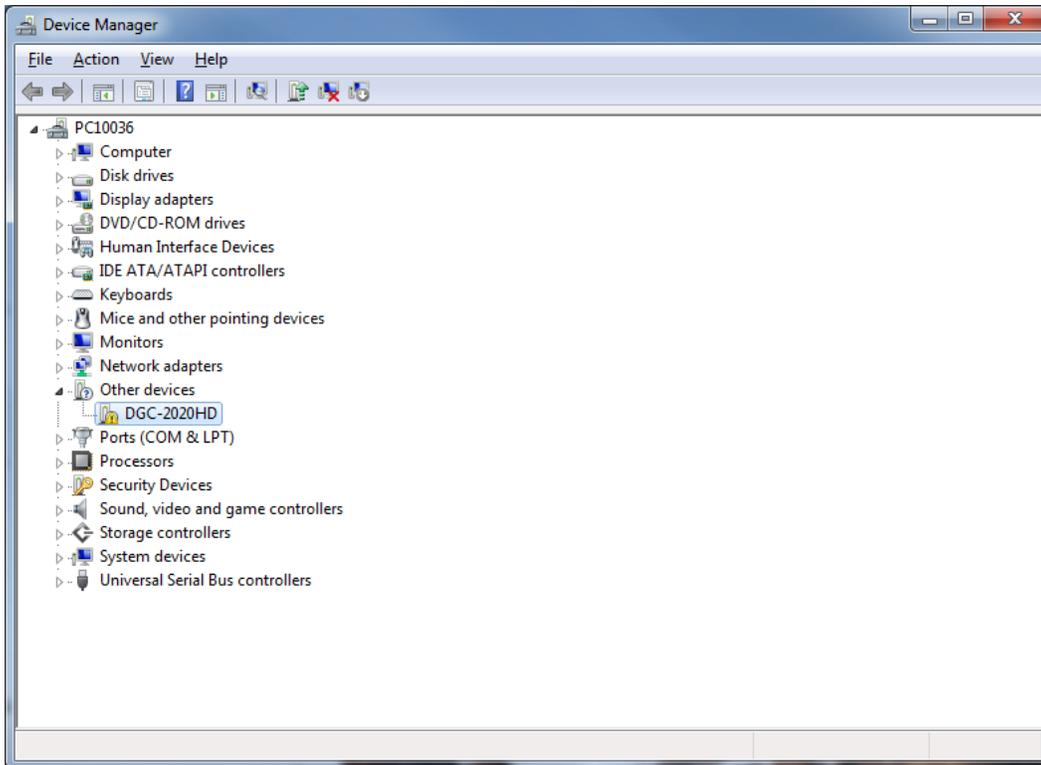

Figure 9-2. Device Manager
- Step 2. Open the Windows® Device Manger as shown in Figure 9-2. Right-click on DGC-2020HD (or Unknown Device) under Other Devices and select Properties.